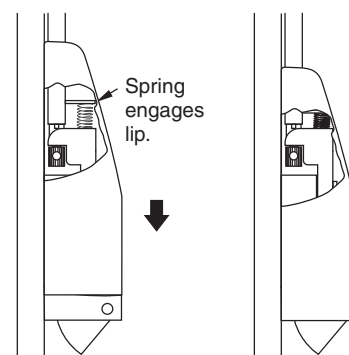

Figure 22
1. Position bottom latch cover above bottom latch frame and slide down to engage spring. (Figure 22)